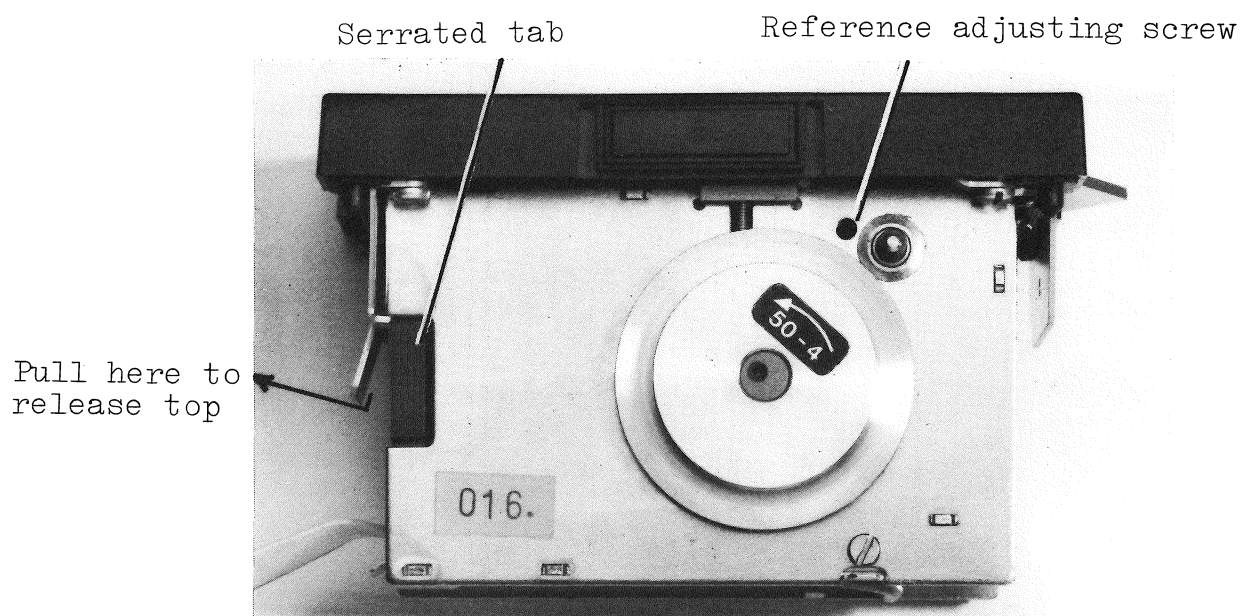

Fig. 5.1 Removing the Top Cover
5.1.2 REMOVING THE TOP COVER (See Fig. 5.1)
- b) Grasp the selector box by its two serrated tabs (Fig. 5.1), and slide it out while depressing the locking clip.